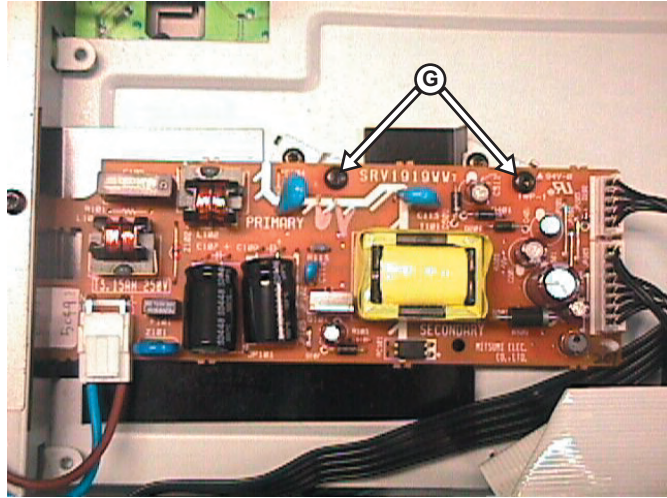

Figure 4-7
- 6) Loosen 2 screws (See Figure 4-7) to remove PSU Module.